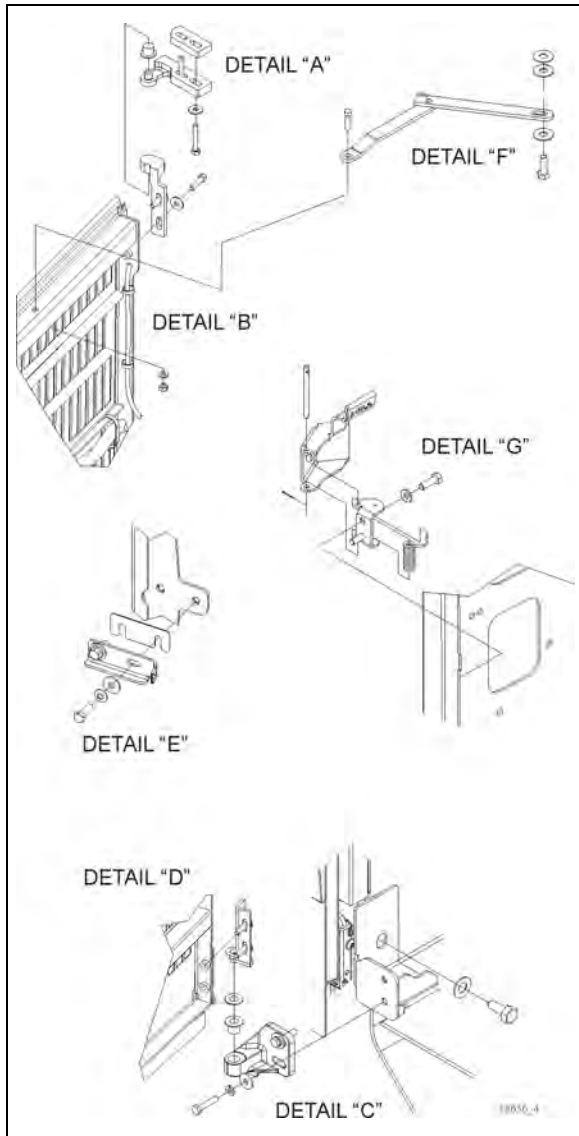

FIGURE 108: RADIATOR DOOR DETAILS
- Loosen the bolts, ("A" & "C", Figure 108) holding the hinge to the vehicle structure to shift the door "LEFT or RIGHT".
- Loosening the bolts ("B" and "D", Figure 108) allows the door to be shifted "UP or DOWN".
To adjust the latch mechanism ("E" and "G", Figure 108) and the striker pin:
- Open the door and slightly loosen the latch tab ("E", Figure 108).